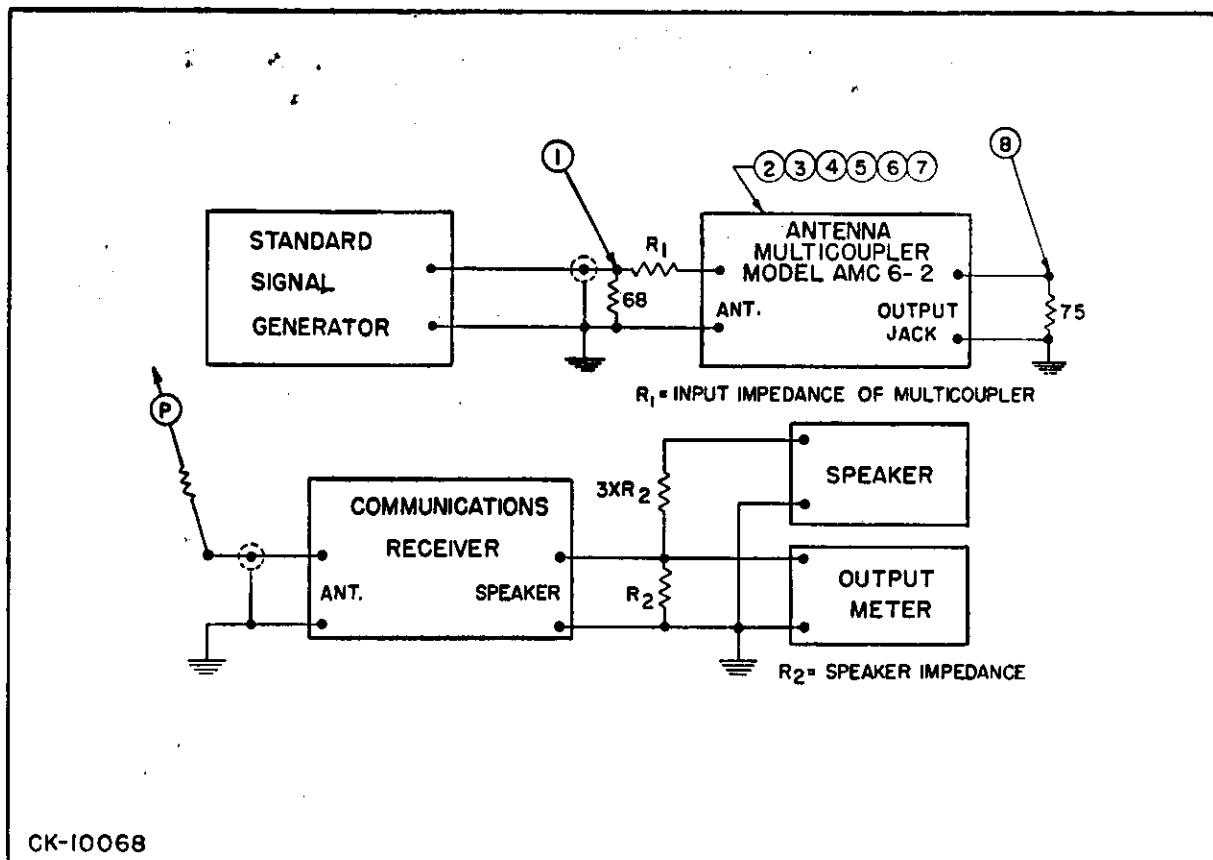

Figure 5-1. TEST SET UP FOR GAIN MEASUREMENTS
- c. The spurious signal amplitude to be expected from two signals applied at the input of the multicoupler is shown in Figure 6-2. Every precaution has been taken in the design of the instrument to minimize intermodulation effects in the receiving system. At the low end of the band (where high level signals from local broadcast stations are likely) filter FX101 becomes effective. Sufficient attenuation is provided by the filter so that signals are reduced to a level where they are ineffective in the production of spurious signals. The filter may be switched out or in as desired. In some instances the location of the receiving station is such that excessive signals from a powerful local station may cause serious intermodulation effects in the receiving system. This, however, should not be troublesome for signals under 10,000 microvolts. Should it be found that signals of a higher order than 10,000 microvolts are causing serious intermodulation effects, additional filters may be inserted in the antenna transmission line. A suggested method of locating the frequency or determining the amplitude of interfering signals can be obtained by referring to the test set-up in Figure 5-1. First, disconnect the multicoupler from the circuit and connect the antenna lead together with test probe (P) to test point (2); set the signal generator to the unmodulated condition and turn the attenuator to zero. Tune the receiver until a strong signal is located and turn on the BFO switch; adjust the gain controls for a convenient reading on the output meter using the highest signal obtained on either side of zero beat as a reference voltage. Move the tuning dial until the signal disappears; adjust the frequency and attenuator controls of the signal generator until a voltage comparable with the reference voltage is obtained on the output meter. The signal generator setting in microvolts indicates the strength of the signal pick-up by the antenna while the first tuning dial position of the receiver indicates its frequency.
c. Faults which are difficult to locate by other means may be isolated by the test set up shown in Figure 5-1. The signal generator should be set for a modulated condition of 1000 cycles per second and a modulation depth of 30 per cent. Next set up the receiver gain controls for use as a fixed level detector. To do this connect test probe (P) to test point (3); set the signal generator attenuator to 100 μ V; turn the receiver audio gain control up, and with the BFO off adjust the manual RF gain control to a minimum value for a convenient voltage reading on the output meter. Connect test probe (P) to other test points and adjust ONLY the signal generator attenuator to obtain the same output meter reading as before. Record the attenuator settings in a table similar to Table 5-2. Ratios between the microvolt settings in this table can be used to locate quickly any circuit fault in the multicoupler.